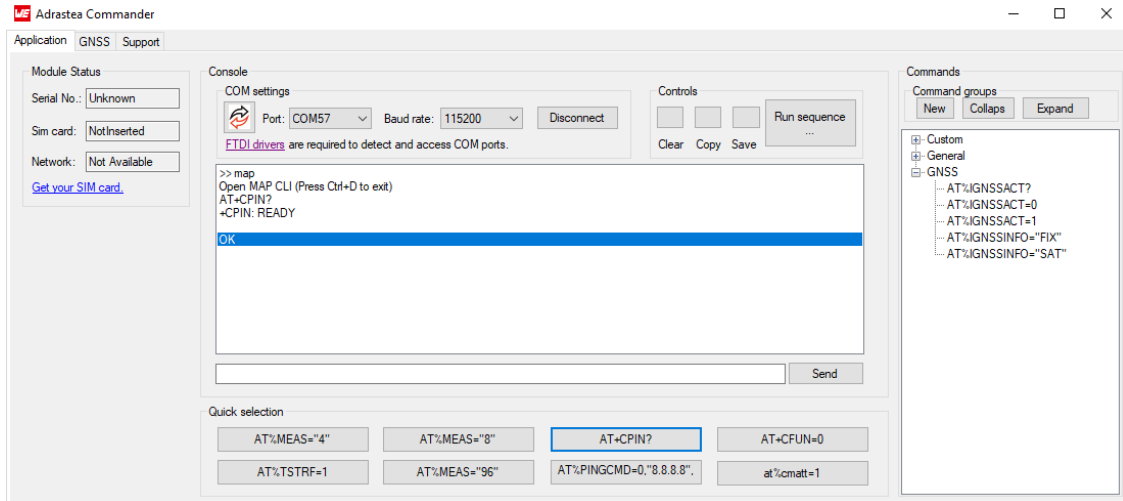

Figure 4: SIM card detected - Adrastea Commander
- Step 8: Check if the SIM card is detected. Send command `map` followed by the command `AT+CPIN?`. See figure 4.